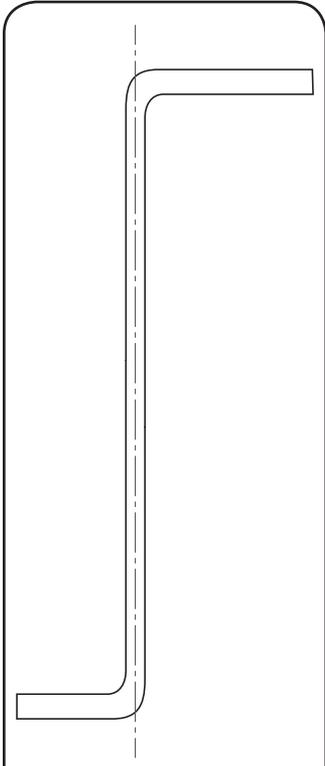

Figure 12: Ball Placement and Removal Tool (Make Locally)
6. Using two lifting hooks illustrated in Figure 12, remove the ball. This is accomplished by inserting the hooked end into the flow port of the ball and lifting upward.
to slow removal of the packing gland stud nuts. Move the packing gland flange and packing gland away from the stuffing box until the flange contacts the yoke. Using a wire hook similar to the one illustrated in Figure 12, or a packing remover, remove the 316 stainless steel1 packing from the stuffing box. Place the split ring packing around the stem